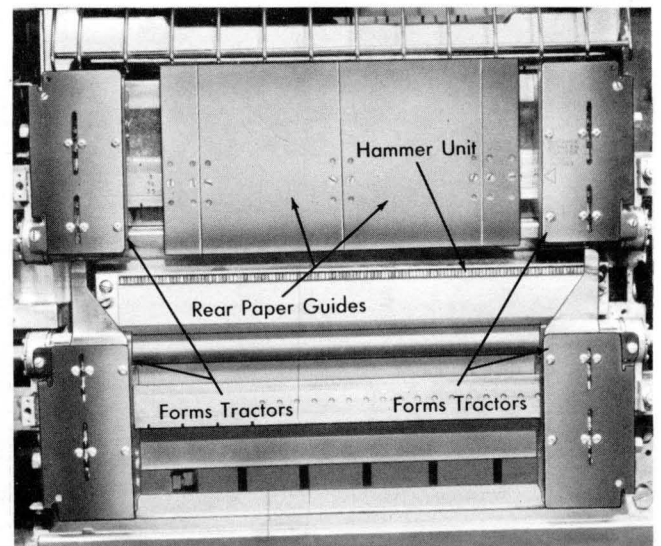

Figure 32. Forms Tractor
5. Open the upper and lower forms tractors (Figure 32).